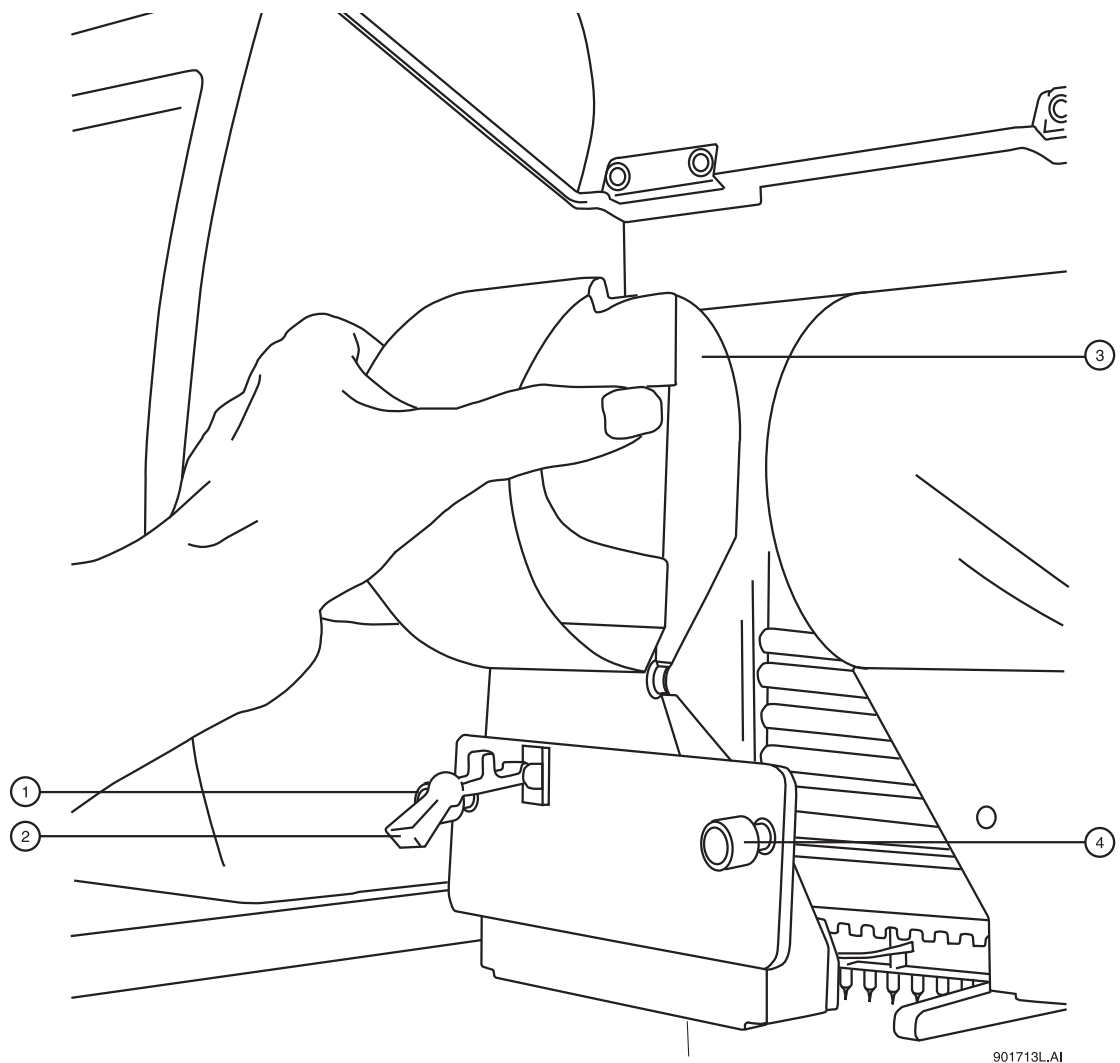

Figure 3.42 Plenum Assembly Removal
6. Loosen the two Plenum Assembly captive screws (Figure 3.42), then pull the Plenum Assembly straight back and away from the instrument and set it aside.
14. Replace the Plenum Assembly and tighten the two captive screws (Figure 3.42).